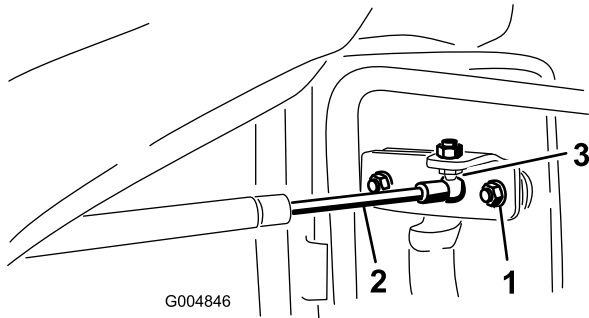

Figure 63
1. Remove the clip securing the door closer socket to the door bracket ball (Figure 63).